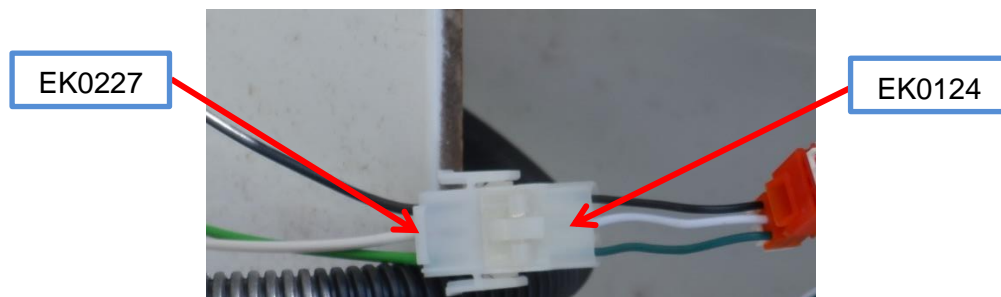

Fig 2.9b– Plug In the male and female socket.
- a. For single sided pedestal (RF00042), there only have on EK0124 cable. No need to remove the “dummy plug”. Proceed to connect EK0124 with EK0227 by plug in the socket. (Figure 2.9b).